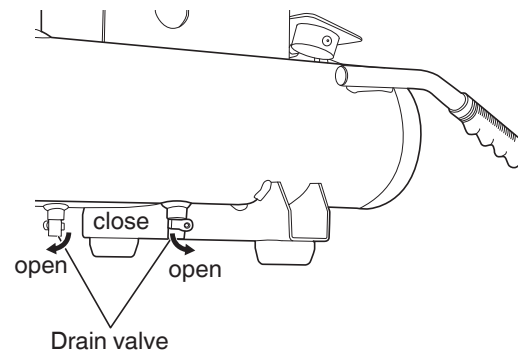

Fig. 9
- B) Gradually open both the drain valves, take out the drainage and all the compressed air inside the tank to prevent any internal corrosion of the tank (Fig. 9).
Drain tank daily or after 4 hours of use. Open drain valve and tilt compressor to empty accumulated water (Refer to Fig. 9).